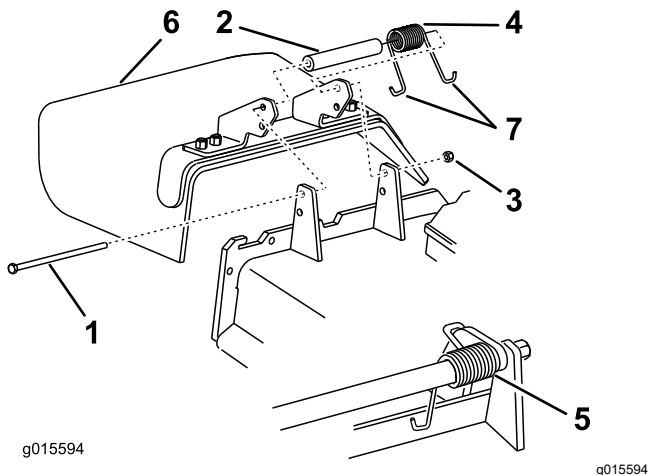

Figure 112
1. Remove the locknut, bolt, spring, and spacer holding the deflector to the pivot brackets (Figure 112).
2. Remove the damaged or worn grass deflector (Figure 112).
**Note:** Make sure that 1 J-hook end of the spring is installed behind the deck edge before installing the bolt as shown in Figure 112.
6. Place 1 J-hook end of the spring around the grass deflector (Figure 112).